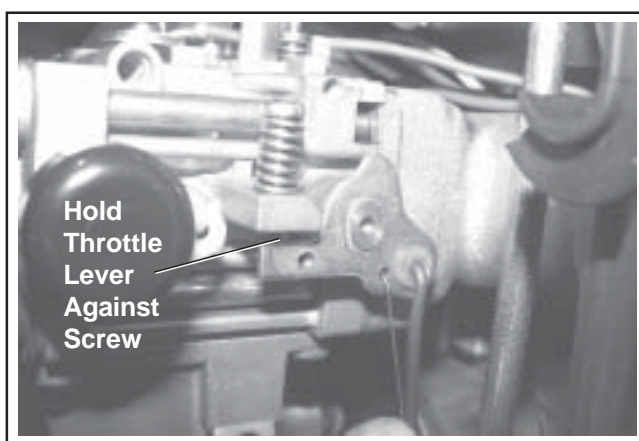

Figure 5-42. Holding Throttle Lever Against Idle Stop Screw (Two-Barrel Carburetor).
2. Move the throttle control to the idle position. Hold the governor lever away from the carburetor, or hold the throttle lever so it is tight against the idle speed adjusting screw, to negate the governor activation. See Figure 5-42. Check the speed with a tachometer and adjust it to 1500 RPM.